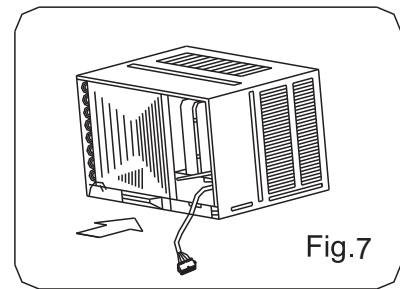

Fig.7
3. Push the unit chassis into the cabinet (See Fig.7).